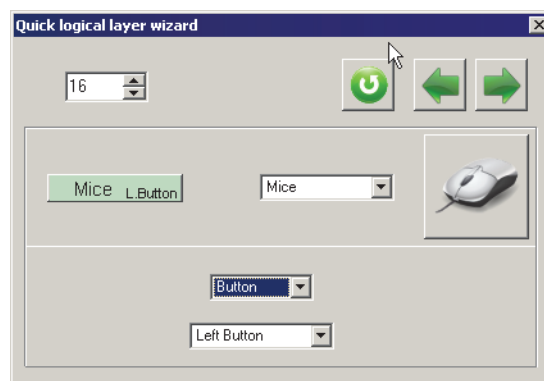

Fig. 5.9.
**Quick logical layer wizard** dialog for this function is shown on Fig. 5.9.